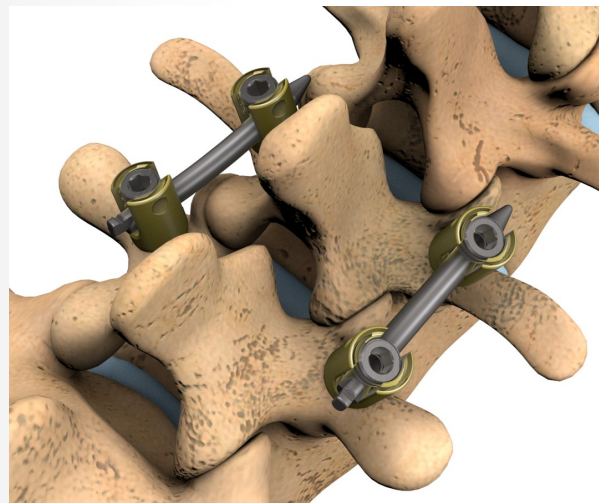

Figure 30
- C. Repeat for the remaining extended tabs to obtain the final construct (Figure 30).